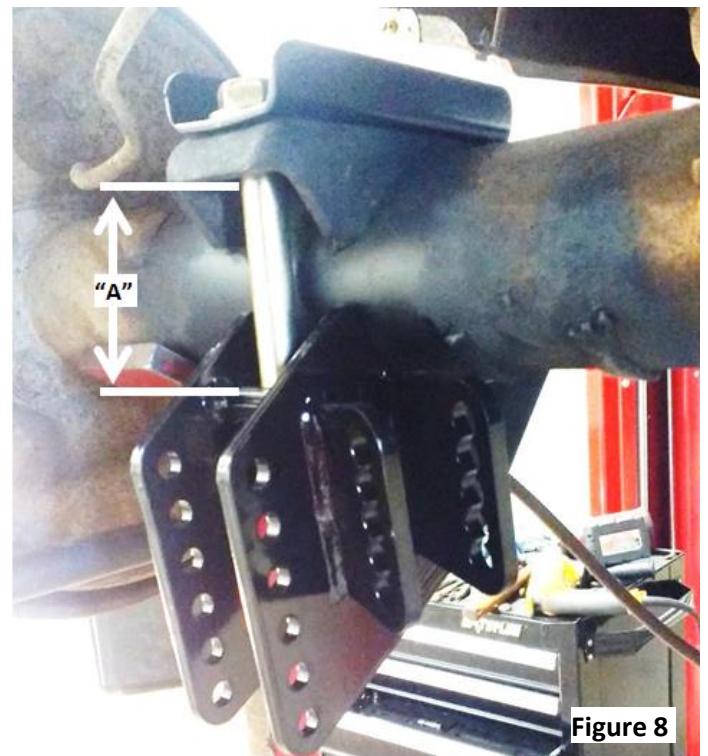

Figure 4
14. Drill the factory bump stop holes out to 7/16" before bolting the "C" notch template to the frame using the factory bump stop rivet holes. Mark the "C" notch cut lines. Trucks with existing "C" notches may need to have the QA1 bracket test fit and the notch trimmed as needed. See **Figure 4**.